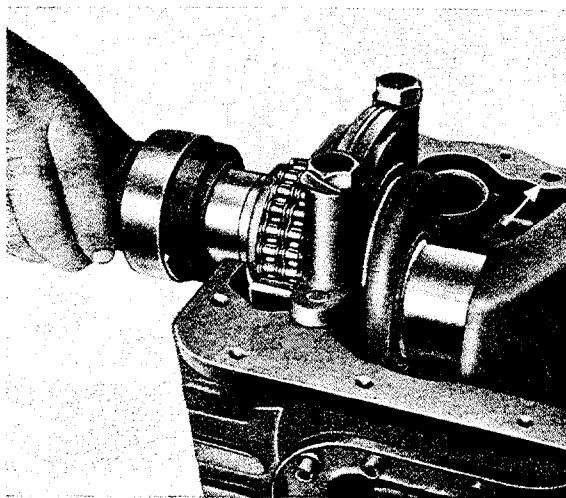

Fig. M 3/53a
When installing the grease retainer, use insertion sleeve with pressure piece 187 589 04 61 to ensure that the sealing lips will not be damaged (Fig. M 3/53a).
**Note:** Before pushing on the grease retainer, fill the space between the two sealing lips with heat-resistant grease (see Fig. M 3/53). In engines not provided with an oil thrower, the spacer ring is longer by the thickness of the oil thrower (0.75 mm = 0.0295"). Keep this in mind as there may be not enough space left to properly tighten the collar screw securing the counterweight on the crankshaft.